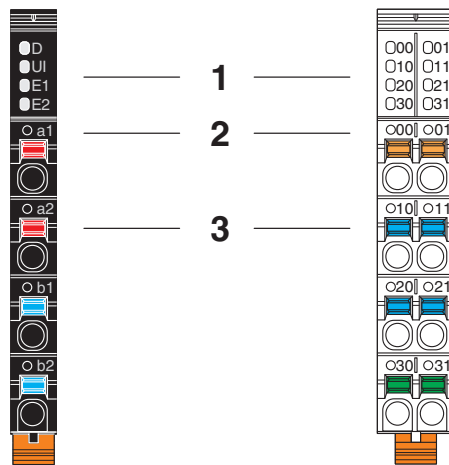

Figure 5-26 Marking of terminal points and LEDs on the connectors
- Indication elements**            Diagnostic and status indicators are marked with the function, e.g., D, E, UI, 00, 01, ... (1 in Figure 5-26).
- Terminal points**                    The terminal points are consecutively numbered, e.g., a1, b1, 00, 01, ... (2 in Figure 5-26).
The associated colored spring lever indicates the function (signal, potential) (3 in Figure 5-26).